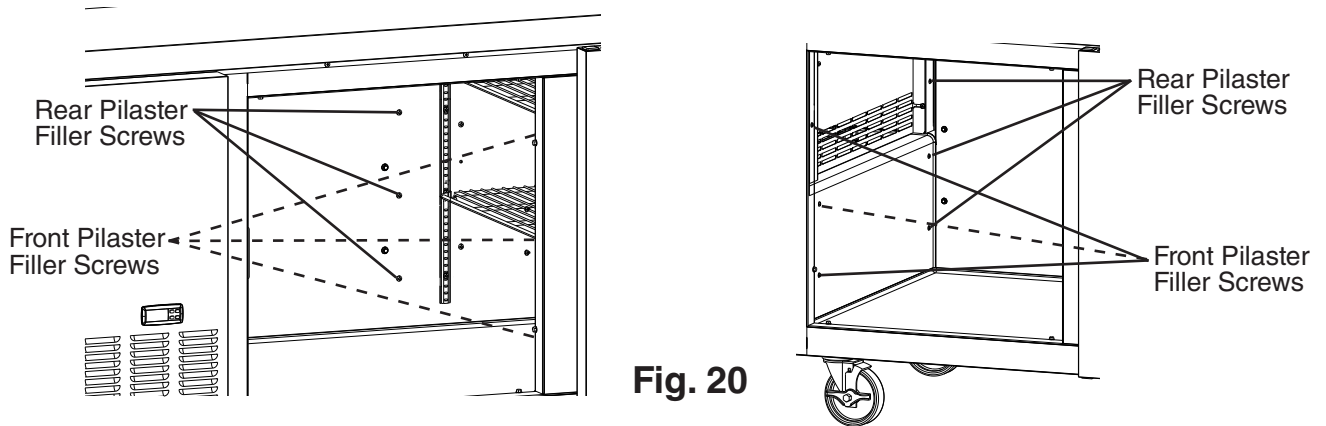

Fig. 20
- 6) Remove the 12 pilaster filler screws from the current drawer section. See Fig. 20.